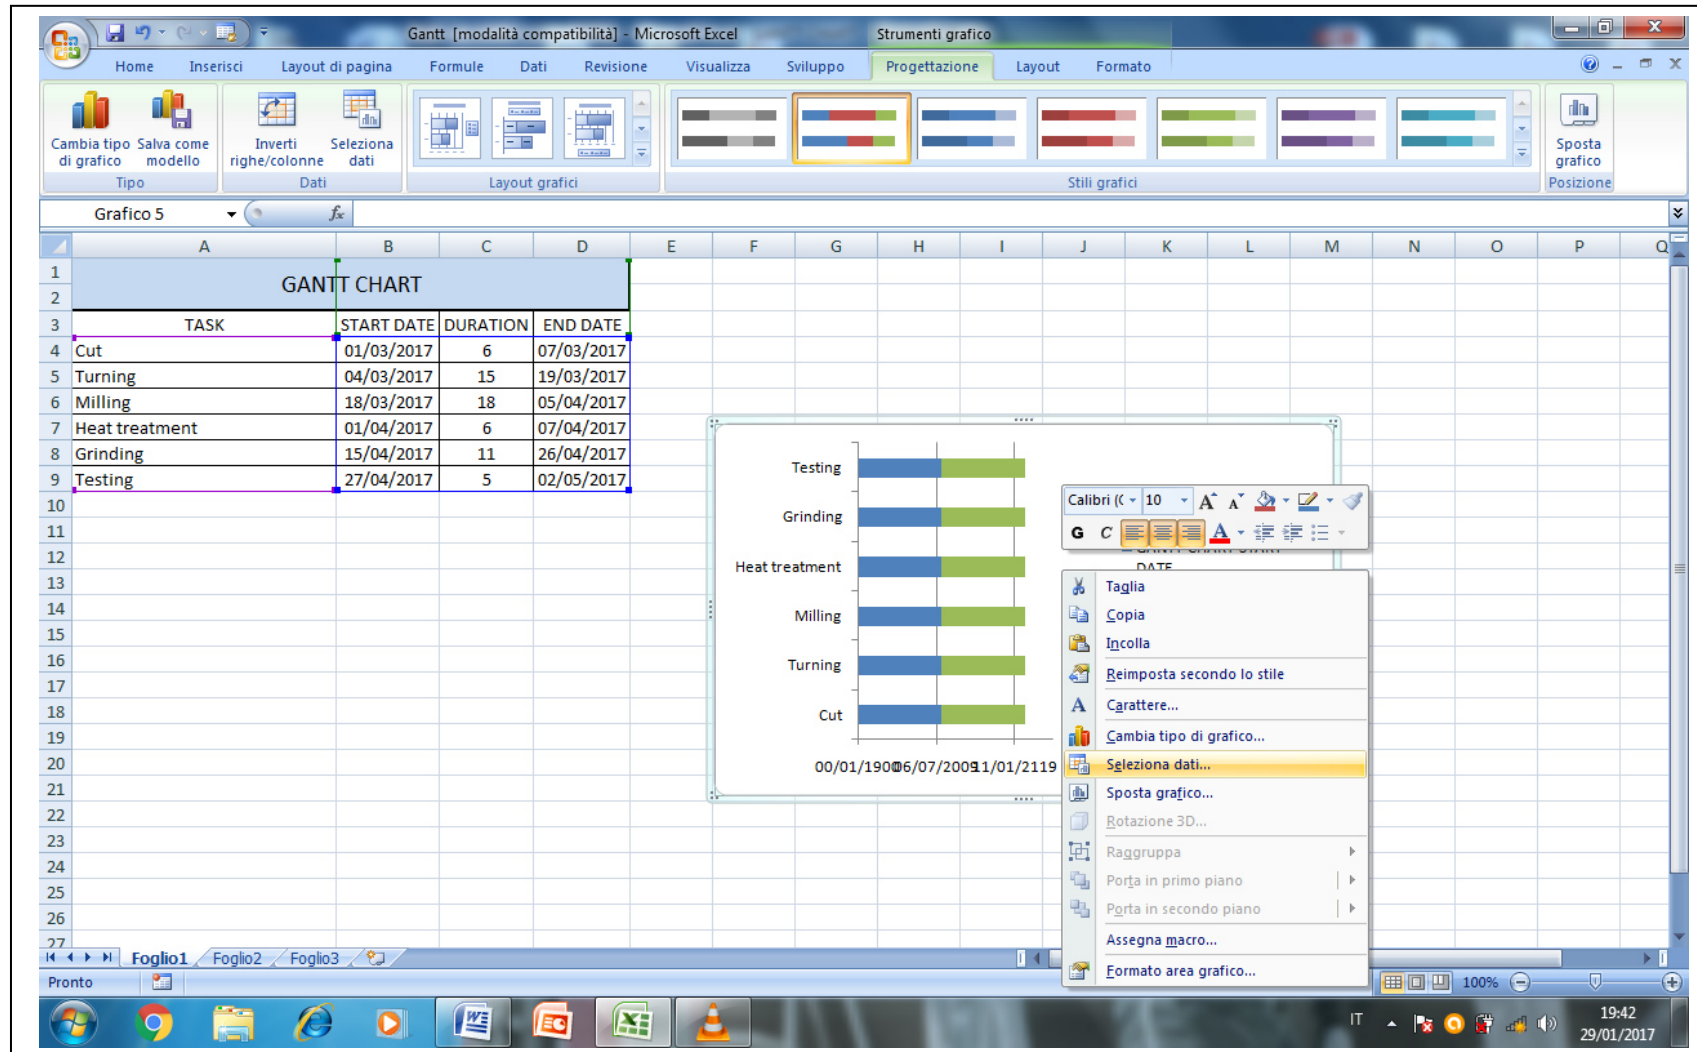

Fig.4- Select data
3) A window appears. Click with the right button of the mouse into the window, in the blank space; select the option “select data”, as shown in Fig.4